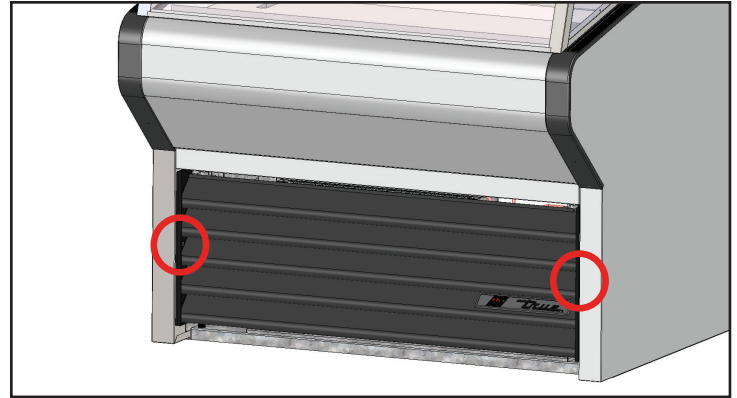

Fig. 1. Louver grill screw locations.
2. Remove the screw securing the louvered grill to the cabinet. See fig. 1.